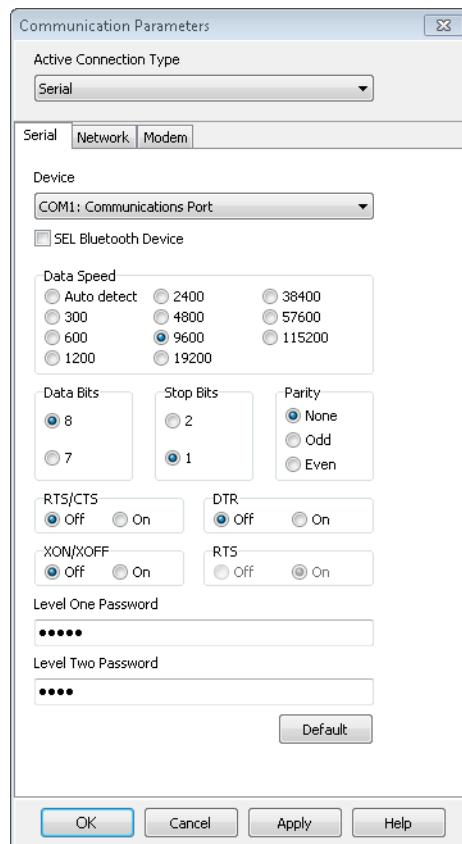

Figure 4.1 Default Serial Communication Parameters
Step 5. Set communication parameters appropriately. *Figure 4.1* shows the default serial port parameters for Port F and Port 2 of the SEL-734B.